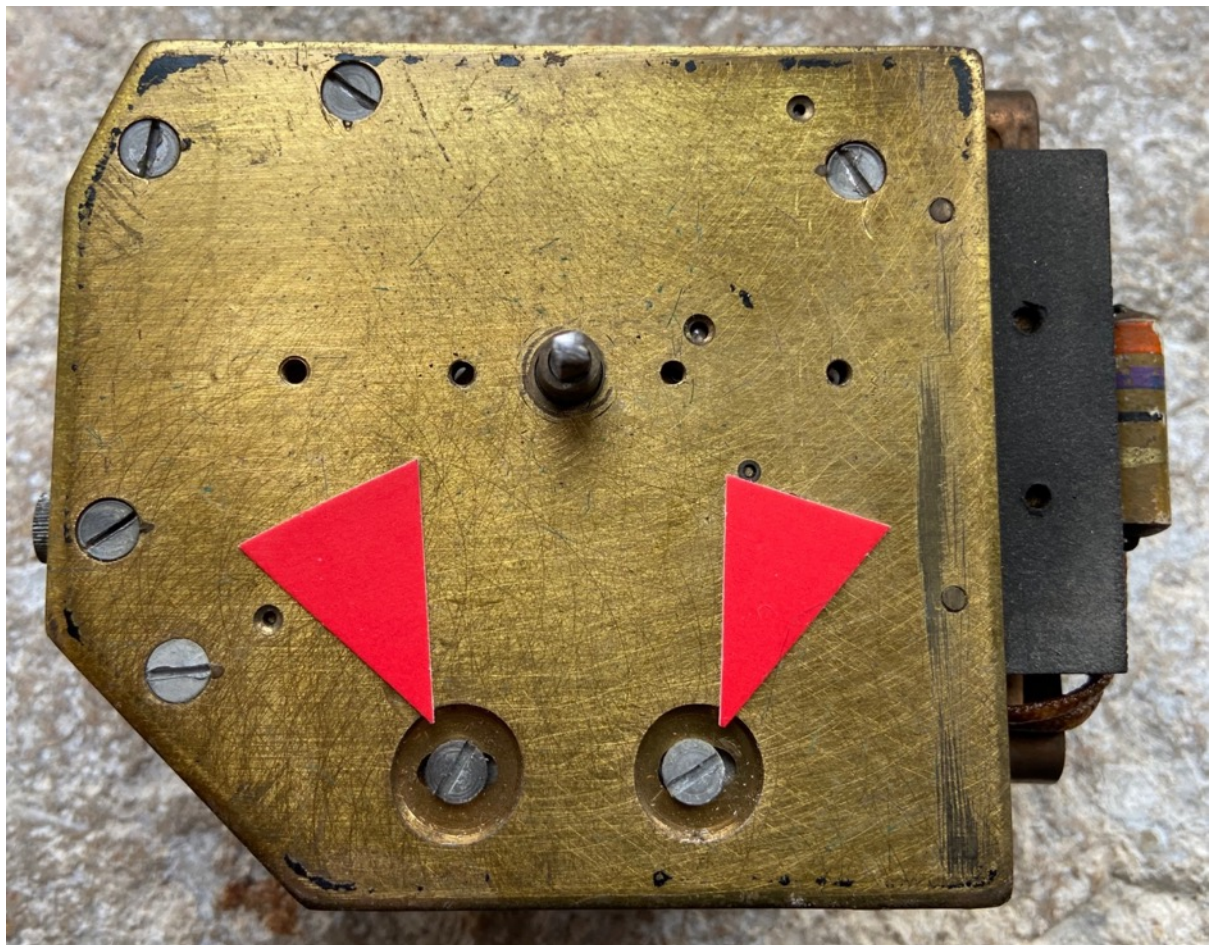

Figure 5 – Coil securing screws in their slotted holes
4. Now the coil/yoke assembly position is adjusted and fixed. Note that the pole piece on the armature should have a thin paper covering to prevent iron to iron contact. Masking tape will suffice. Using finger pressure – simulate the armature energisation – then with the armature held in that position, slide the coil/yoke assembly towards the armature such that it just clears – and tighten the adjusting screws (Figure 5). Note that there is some ‘alignment’ adjustment available and ideally the ‘gap’ in the magnetic circuit should be as small and even as possible – and that a ‘gap’ must be present both between the central coil core and the armature *and* the yoke and the armature (against the baseplate). If there is no gap, the tooth may not be gathered due to limited armature movement – but if there is too much gap, then the magnetic circuit will be weak and operation may be unreliable.